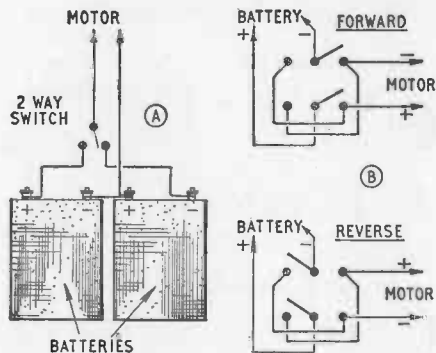

Fig. 28. Reversing permanent magnet motors.
Circuits are shown in Fig. 28. Circuit A needs two batteries, but only a single pole 2-way switch. It is simple and convenient. In a boat it may be handy to use a slightly discharged battery, or lower voltage, for reverse. Or a series resistor may be added in one lead from the reverse battery. The circuit is seen in radio control, where a 2-way relay replaces the switch.
Fig. 28 also shows a reversing circuit (B) for a single battery, though a 2-pole 2-way switch must be employed. Throwing the switch reverses the polarity of the supply to the motor. The switch should have a central "off" position. Current is drawn from any d.c. source—dry battery, accumulator, or mains unit with rectifier. A speed controller can be added in one lead.